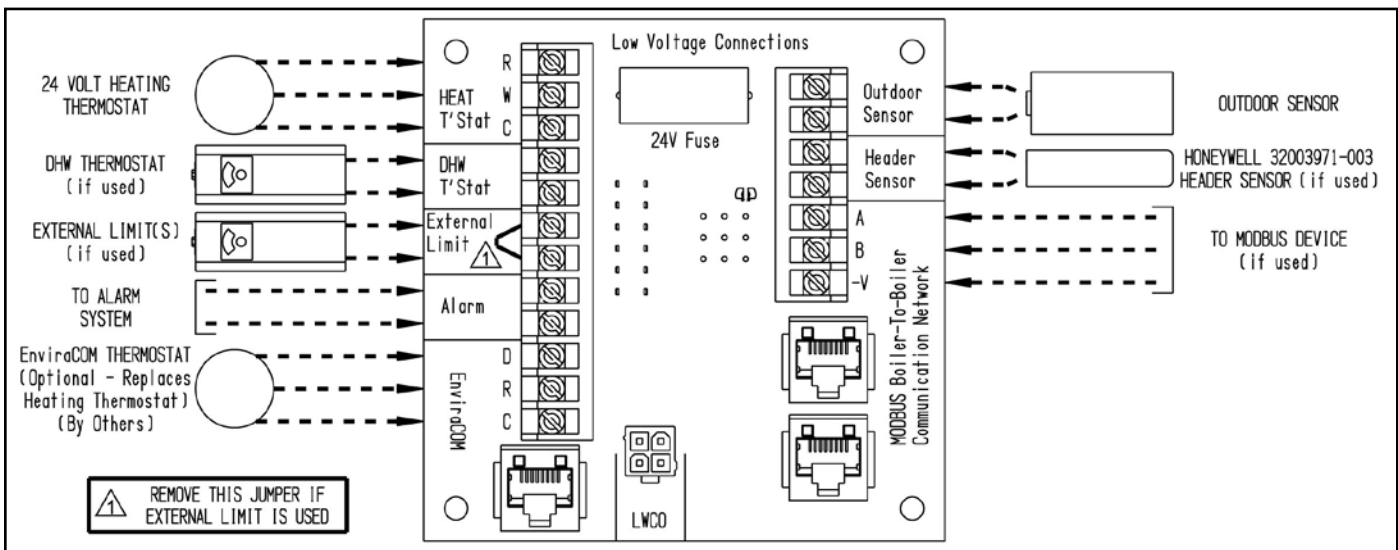

Figure 10.3: Low Voltage PCB Terminal Connections
- 7) Manual Reset High Limit (required by some codes) - This control is required by ASME CSD-1 and some other codes. Install the high limit in the boiler supply piping just above the boiler with no intervening valves. Set the manual reset high limit to 200°F. Wire the limit per Figure 10.3 in the Wiring section.
This boiler is equipped with a listed high water temperature limit function. This limit provides boiler shutdown in the event the boiler water temperature exceeds the set point of the limit control. Certain Local Codes require an additional water temperature limit. If necessary, install an additional water temperature limit such as a Honeywell L4006 Aquastat. Wire as indicated in Figure 10.3.
2) Low Voltage Connections – Low voltage field connections on the low voltage PCB are shown in Figure 10.3 and are listed from top to bottom:
- DHW Stat - 24VAC domestic hot water thermostat (1)
- DHW Stat - 24VAC domestic hot water thermostat (2)
- External Limit - Field supplied low voltage safety limit contacts (1)
- External Limit - Field supplied low voltage safety limit contacts (2)
- Alarm Contact (1)
- Alarm Contact (2)
- EnviraCOM Device (D)